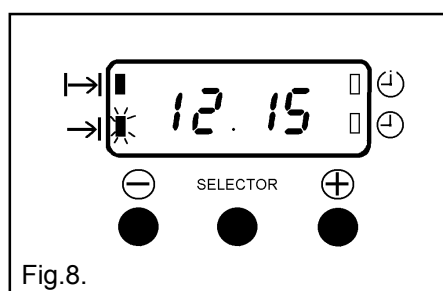

Fig.8.
- v) To set the 'End Time'. Press the Selector Control button until the 'End Time' (→|) flashes. Press the increase control (⊕) until the required stop time is displayed, e.g. 12.15 p.m. as Fig. 8. If necessary press the decrease control (⊖) until the correct time interval is achieved.